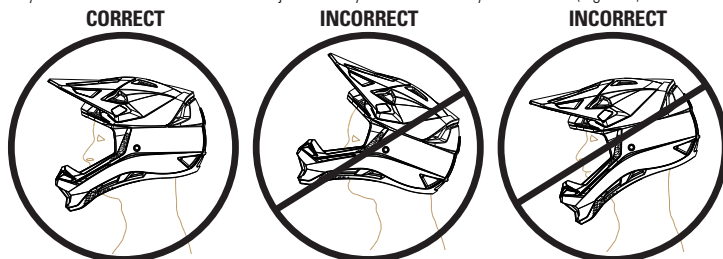

Figure 2
- Check that the helmet sits correctly on your head, it must not be worn tilted forward or rearwards but in order to protect your forehead the helmet should sit just above your brow across your forehead (Figure 2).